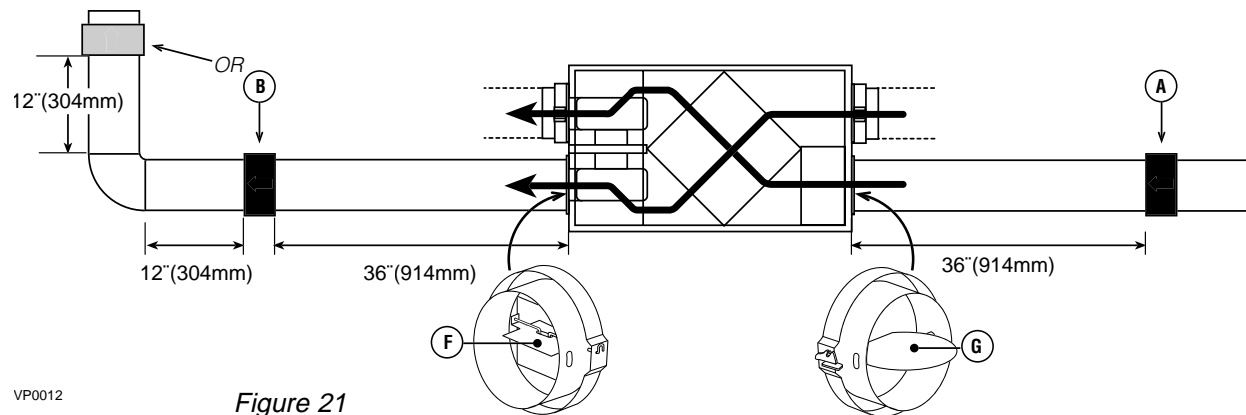

Figure 21
- Make sure the balancing dampers are fully open (F and G in figure 21).
Choose appropriate locations for the 2 flow collars (or flow measuring stations), according to figure 21: